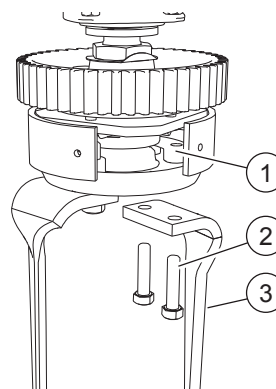

FIG. 35
- Loosen the two bolts (2, “Fig. 35”).
- Remove the block (1).
- Remove the blade (3) sideways.